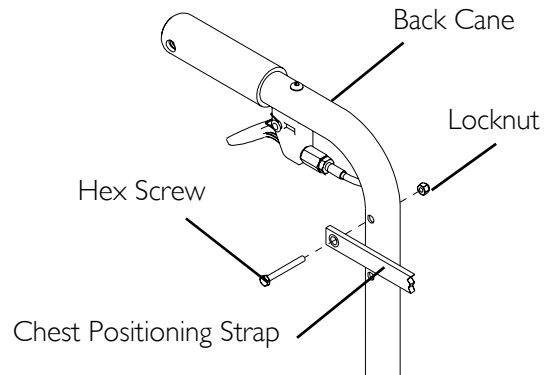

FIGURE 7.14 Installing/Replacing Chest Positioning Straps
NOTE: For this procedure, refer to FIGURE 7.14.
2. Secure the chest positioning strap to the back canes with the new/existing hex screw and locknut (FIGURE 7.14).